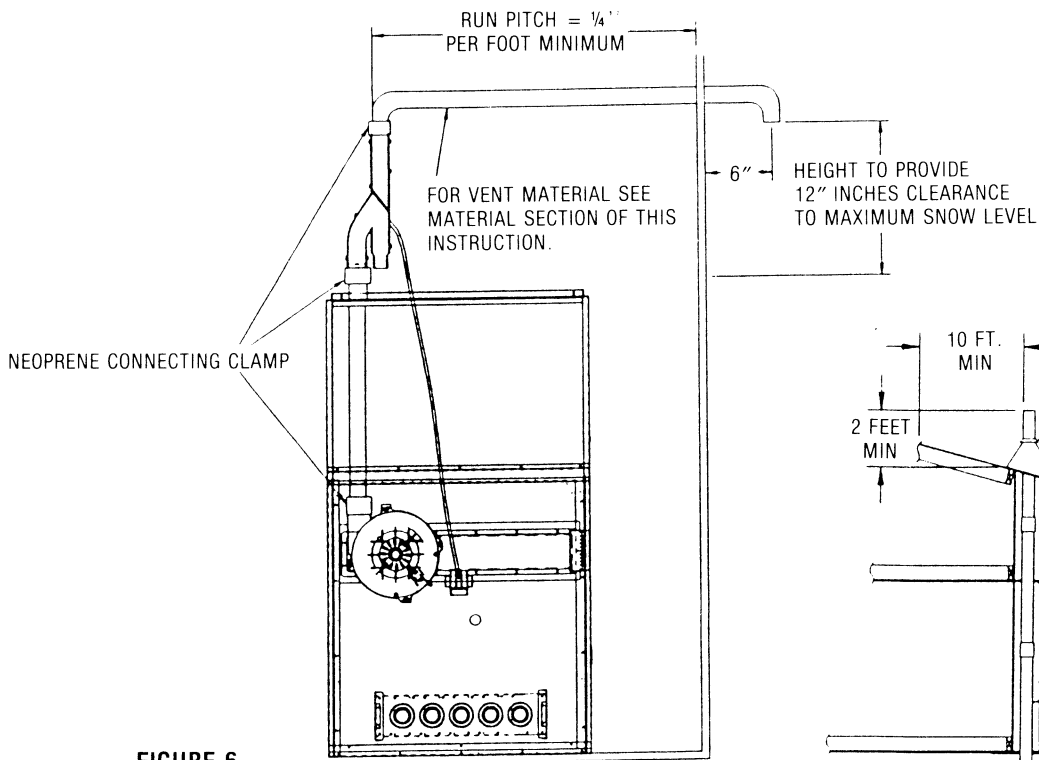

FIGURE 6
Install a piece of two (2) inch pipe from the combustion blower vertically through the blower compartment and out the top filter panel. Refer to Figures 6 and 7. Be sure the grommets in the blower deck and top filter panel are in place to seal around the pipe. Use the supplied neoprene connector to connect the pipe to the combustion blower. Attach the Y-trap to the top of the
pipe just installed with the second neoprene connector. Connect the condensate drain line from the Y-trap to the drain pan using the tygon tubing. The tubing should run through the blower compartment as shown in Figures 6 and 7.
Prime the trap system by slowly pouring 1/4 cup of water down the Y-trap. Connect the vent pipe to the top of the Y-trap using the supplied neoprene connecting clamp. For horizontal venting refer to Figure 6. For vertical venting refer to Figure 7. The vent pipe on horizontal runs must slope upward away from the furnace at a pitch of 1/4 inch per foot of run.